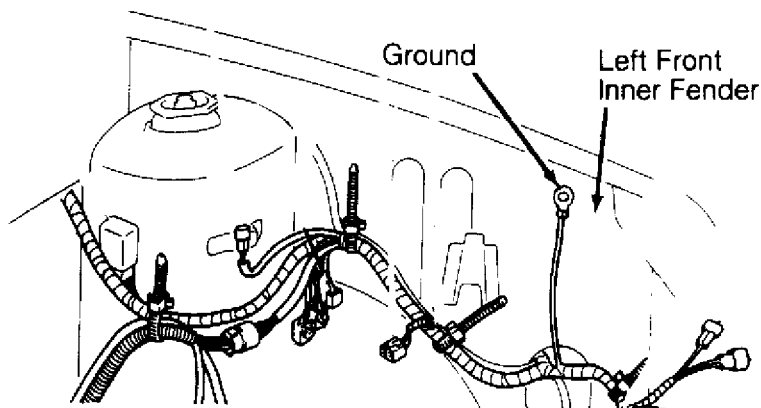

Fig. 2: Locating Cooling Fan Motor Ground Connection
5) Turn ignition off. Using a Digital Volt Ohmmeter (DVOM), check for continuity between Black (ground) wire of fan motor connector and ground. If continuity is present, go to next step. If continuity is not present, repair open or bad ground connection at Black (ground) wire. Ground connection is located on left front inner fender. See Fig. 2.